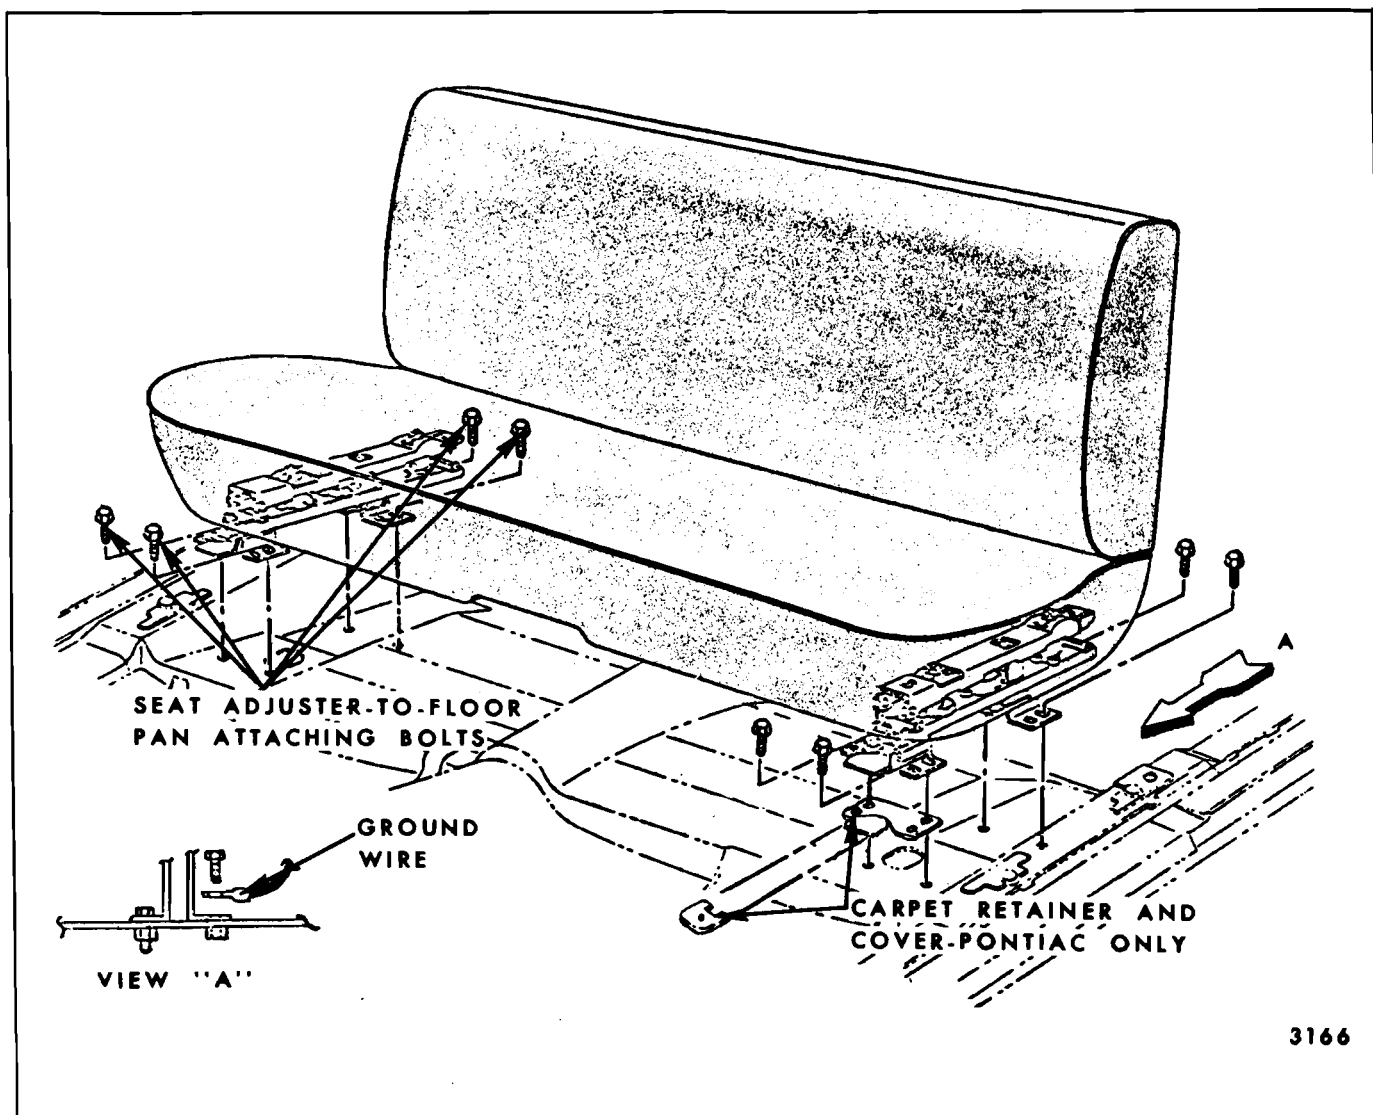

Fig. 15-6—Seat Adjuster Floor Pan Attachment - Full Width Standard Seats (Power Six-Way Shown - Two-Way and Four-Way Typical)
4. Remove seat adjuster-to-floor pan rear attaching bolts (Figs. 15-6 and 15-7).
ground wire is securely attached under seat adjuster-to-floor pan rear attached bolt (See Figs. 15-6 and 15-7). Check for proper operation of seat adjusters to limits of travel.